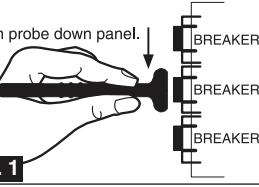

Fig. 1
5. Using the "wand" on the receiver, as shown in Fig. 1, trace the breakers or fuses to detect the transmitting signal. The orientation of the wand is critical in order to pick up the transmitting signal. Place the wand as shown for proper operation.